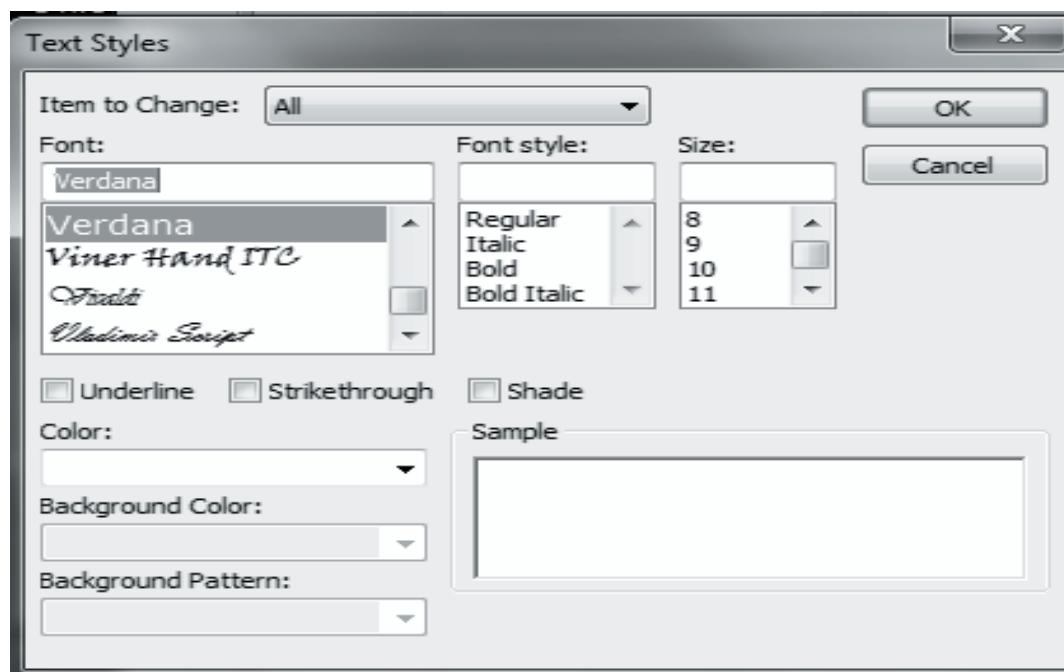

Figure 13.16: Text Styles Dialog Box
4. If the **Text Styles** dialog box has not opened, click the **Text...** button to display the **Text Styles** dialog box as shown in figure 13.16.